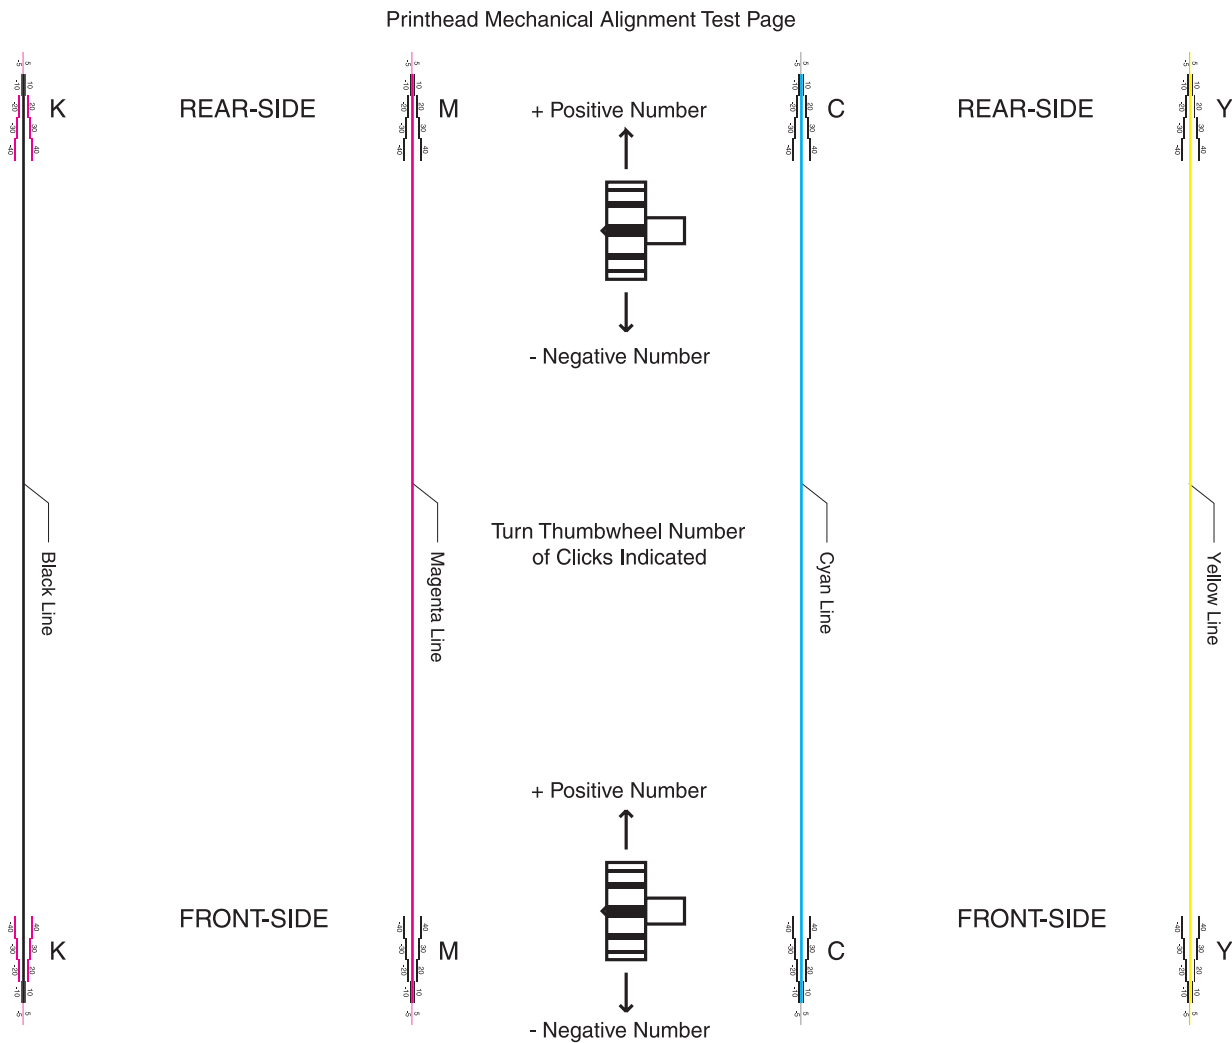

Figure 6
11. Print the Printhead Mechanical Alignment Test page to determine the printhead alignment. See Figure 6 for example.